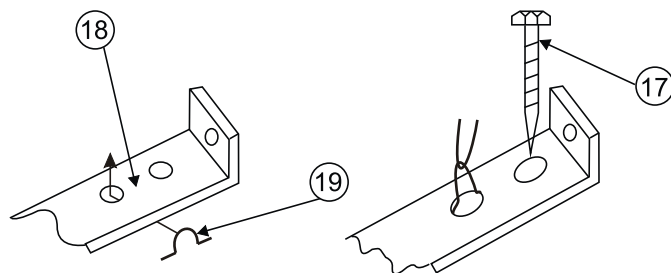

FIGURE 2
Step 1: Using the Fastening Rope Hanging Rings (#19) to the hole of Base Connecting Brackets (#18) as shown in Figure 2